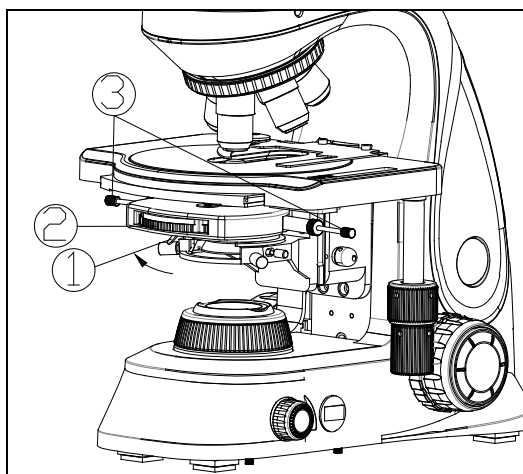

Fig. 21
Rotate the phase contrast ring ② to “BF” position for brightfield observation. When it sounds “ka-da” in rotating, it indicates that one diaphragm or hole is rotated into the center of optical path (see Fig. 21).